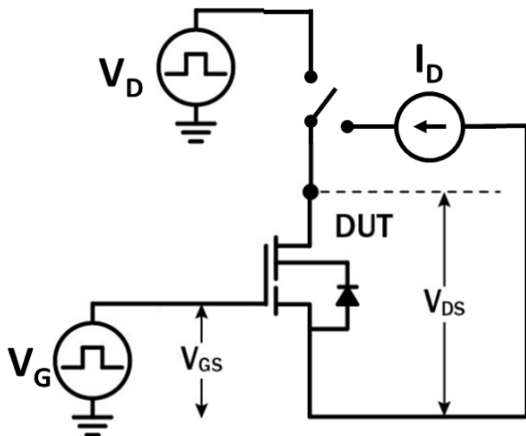

Figure 20. Dynamic $R_{DS(on)eff}$ Test Circuit
- f. Dynamic R_{DS(on)}, 100% tested; see Figures 20 and 21 for test circuit and conditions